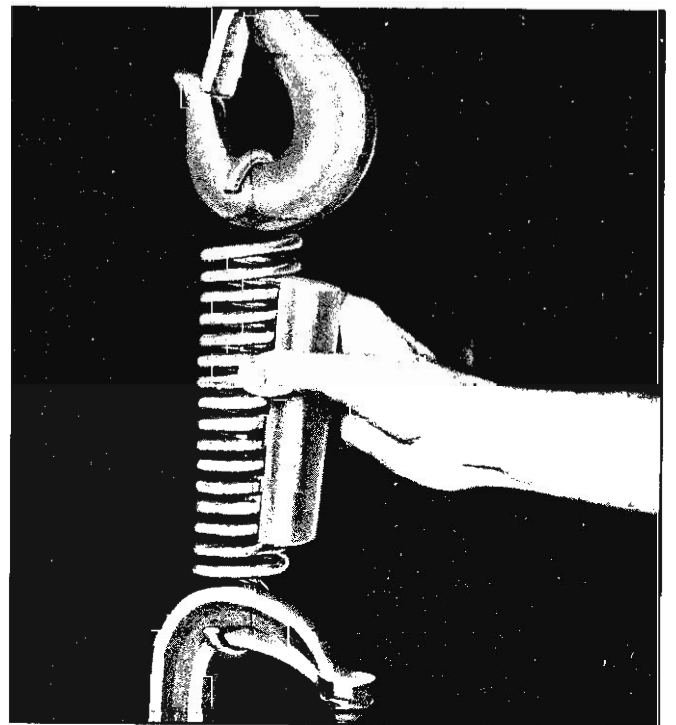

Fig. 113—Installing J-9559 in New Spring
2. Hook one end of spring in clamp and the other end in hook of chain hoist, "cherry-picker" or equivalent, as shown in Figure 113.